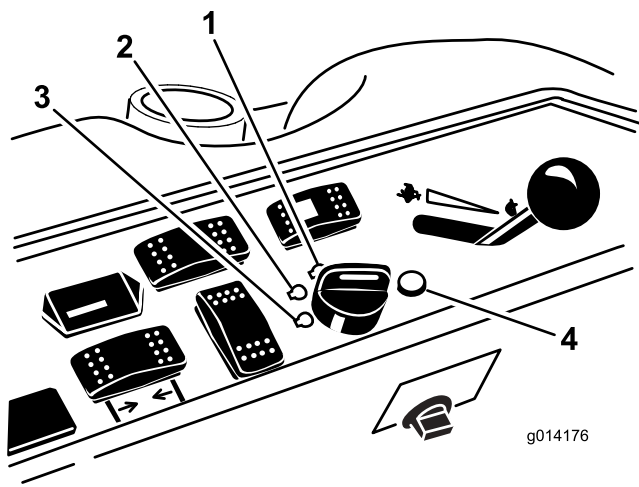

Figure 20
6. Turn the ignition key clockwise to the RUN position (Figure 20).
- Turn the ignition key to the OFF position (Figure 20). Wait for all moving parts to stop before leaving the operating position.